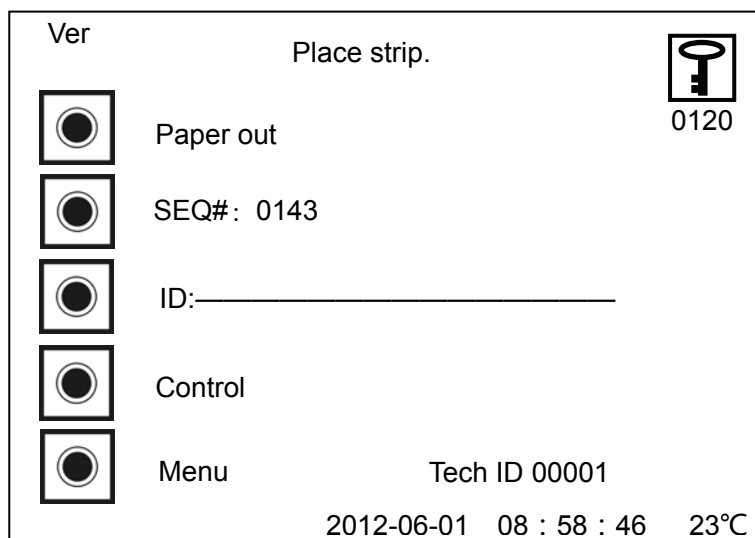

Figure 6-2-2
(1)Manual input: press the  in front of “ID” in Figure 6-2-2 and the screen is shown as follows: